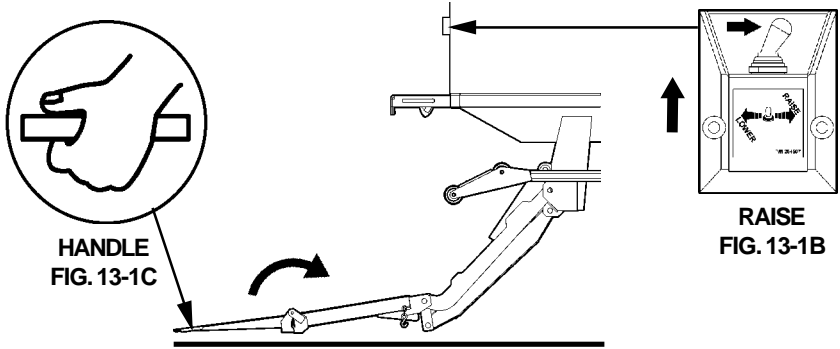

FIG. 13-1A
7. Stow the Liftgate by doing the following steps. **RAISE** the Platform 2" above the ground (**FIG. 13-1A**) by pushing the Control Switch to the **RAISE** position (**FIG. 13-1B**). Use handle to fold Flipover (**FIG. 13-1C**).